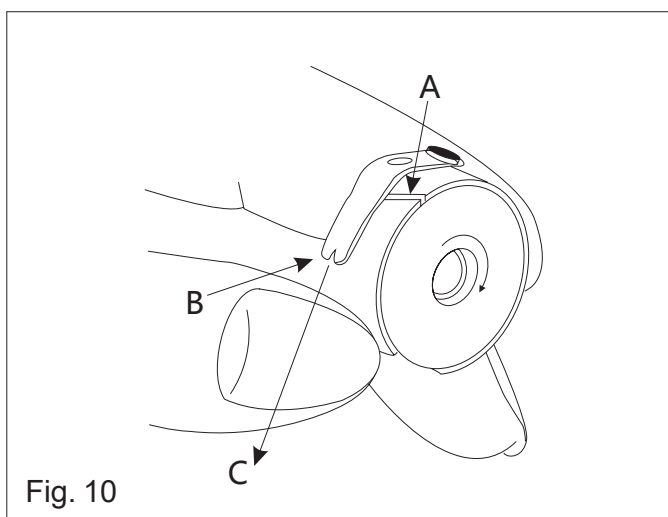

Fig. 10
7. Mounting the Bobbin (Fig.10)